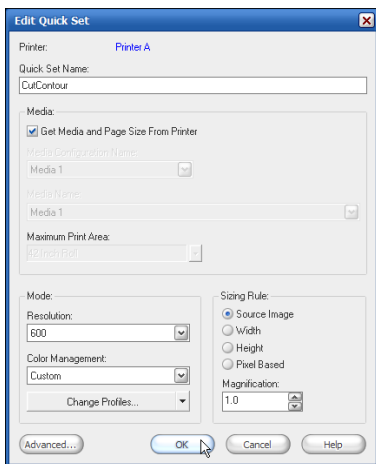

Figure 3—Edit Quick Sets
2. In the Configure Printer dialog, click **New** on the Quick Set tab. This opens the Edit Quick Set dialog (see Figure 3).